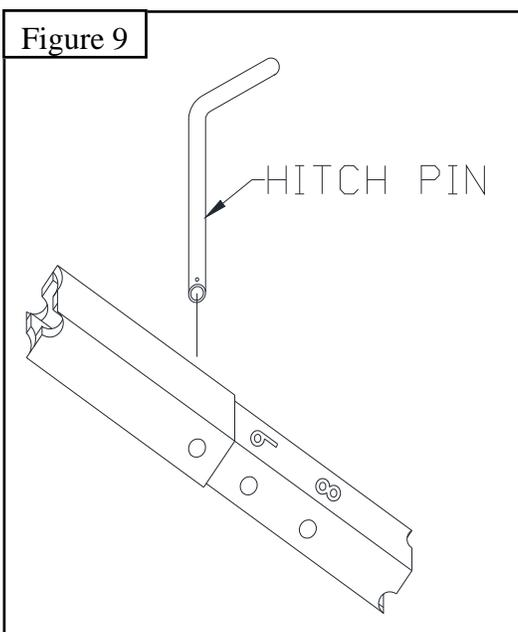

Figure 9
7. Recheck the *Backboard (J)* and *Breakaway Goal (L)* ensuring they are still level.
8. Without attaching the *Backboard Braces (E)*, remove the hitch pin from the height adjuster and raise the goal to the 10' playing position and insert the hitch pin to lock in place. See Figure 9.
16. To adjust Breakaway Goal (L) height remove hitch pin and raise to desired height and reinstall hitch pin. See Figure 9.